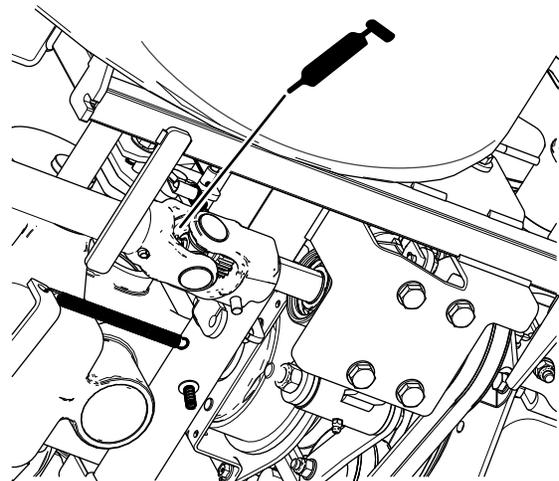

Figure 48
- Rear U-joint of the driveshaft at the PTO (Figure 48).